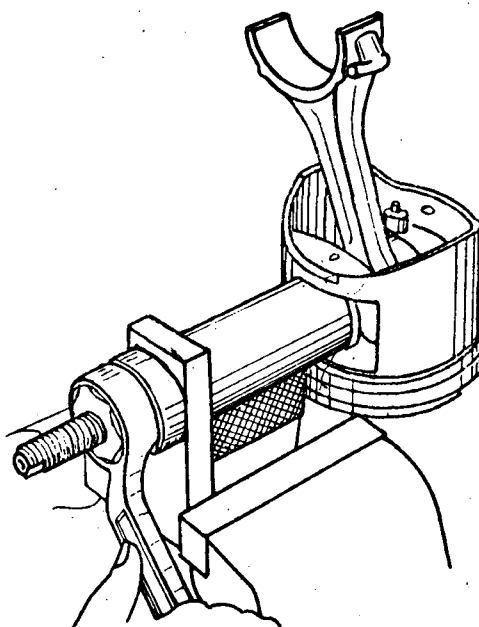

Fig. 6
- b) Remove the gudgeon pin, using an extractor (fig. 6) and separate both bodies.